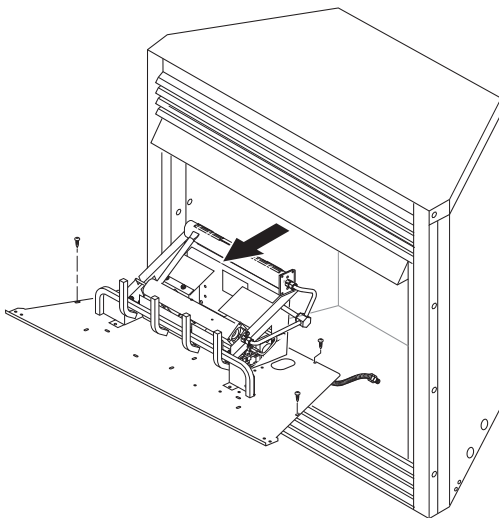

Figure 19 - Removing Log Base Assembly From Fireplace
2. Remove screws that attach log base assembly to fireplace (see **Figure 19, Page 16**). Carefully lift up log base assembly and remove from fireplace (see **Figure 19, Page 16**).